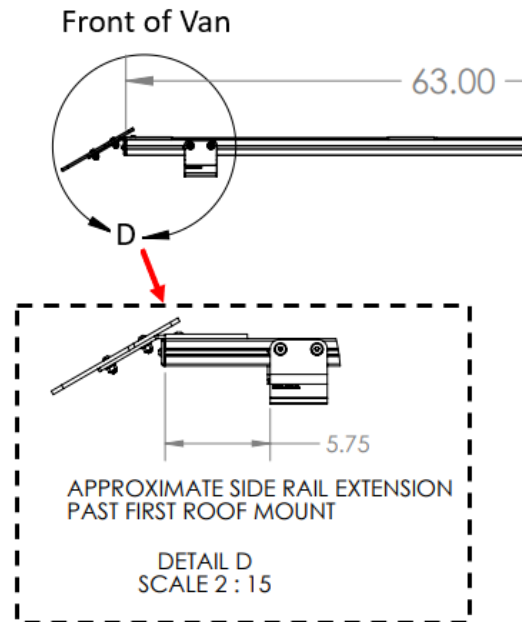

Figure 14: Front side rail location
forward or backwards. Slide the side rail forward or backward as needed to achieve the 5.75" dimension shown in Figure 14 or is adjusted as desired. This 5.75" dimension is a recommendation. This is a good time to hold up the wind fairing and a cross bar assembly to make sure the location does not interfere with any parts of the van and matches the van profile as desired. Wherever the side rail assemblies end up use a tape measure to ensure that they are equal distances from the front rack bracket on both sides of the van.
3. Since the hardware on the side rails is still loose, go to the front Unaka Rack / 8020 Bracket assembly and check the spacing of the side rails with respect to the bracket and wind fairing installation. Make sure the side rail position matches your final desired dimension as discussed Figure 14. Note Unaka called out 5.75" but you may have decided to use a different dimension here for a more ideal wind fairing fit.